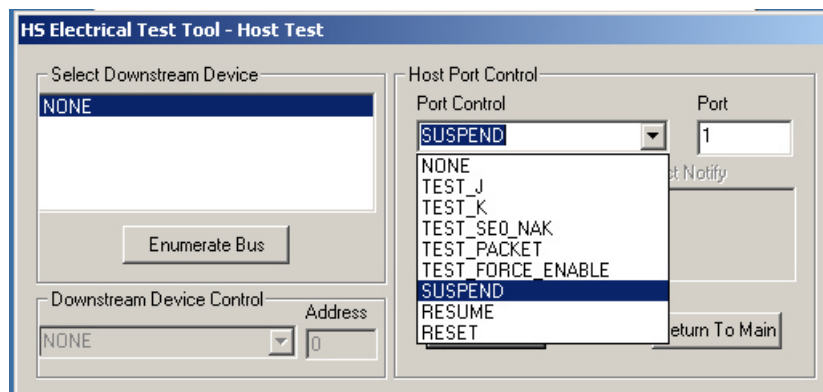

Figure 26. Suspend Host Port Control
- b. Select SUSPEND from the Port Control drop down menu and enter the port number (Figure 26)